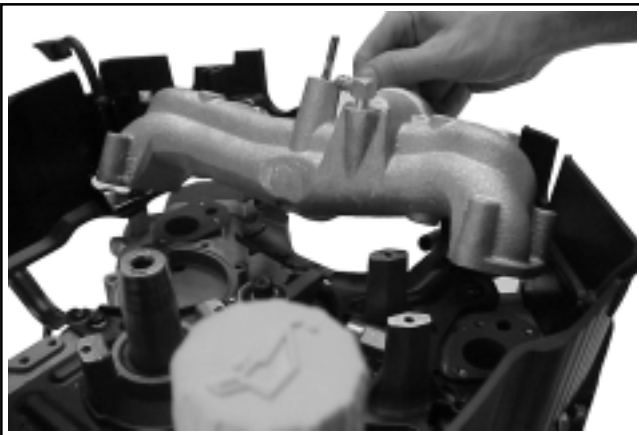

Figure 9-53. Removing Intake Manifold and Gaskets.
2. Separate the intake manifold from the cylinder heads and remove it, by shifting it toward the crankshaft, until the carburetor studs clear the lower blower housing. Remove the intake manifold gaskets. See Figure 9-53.